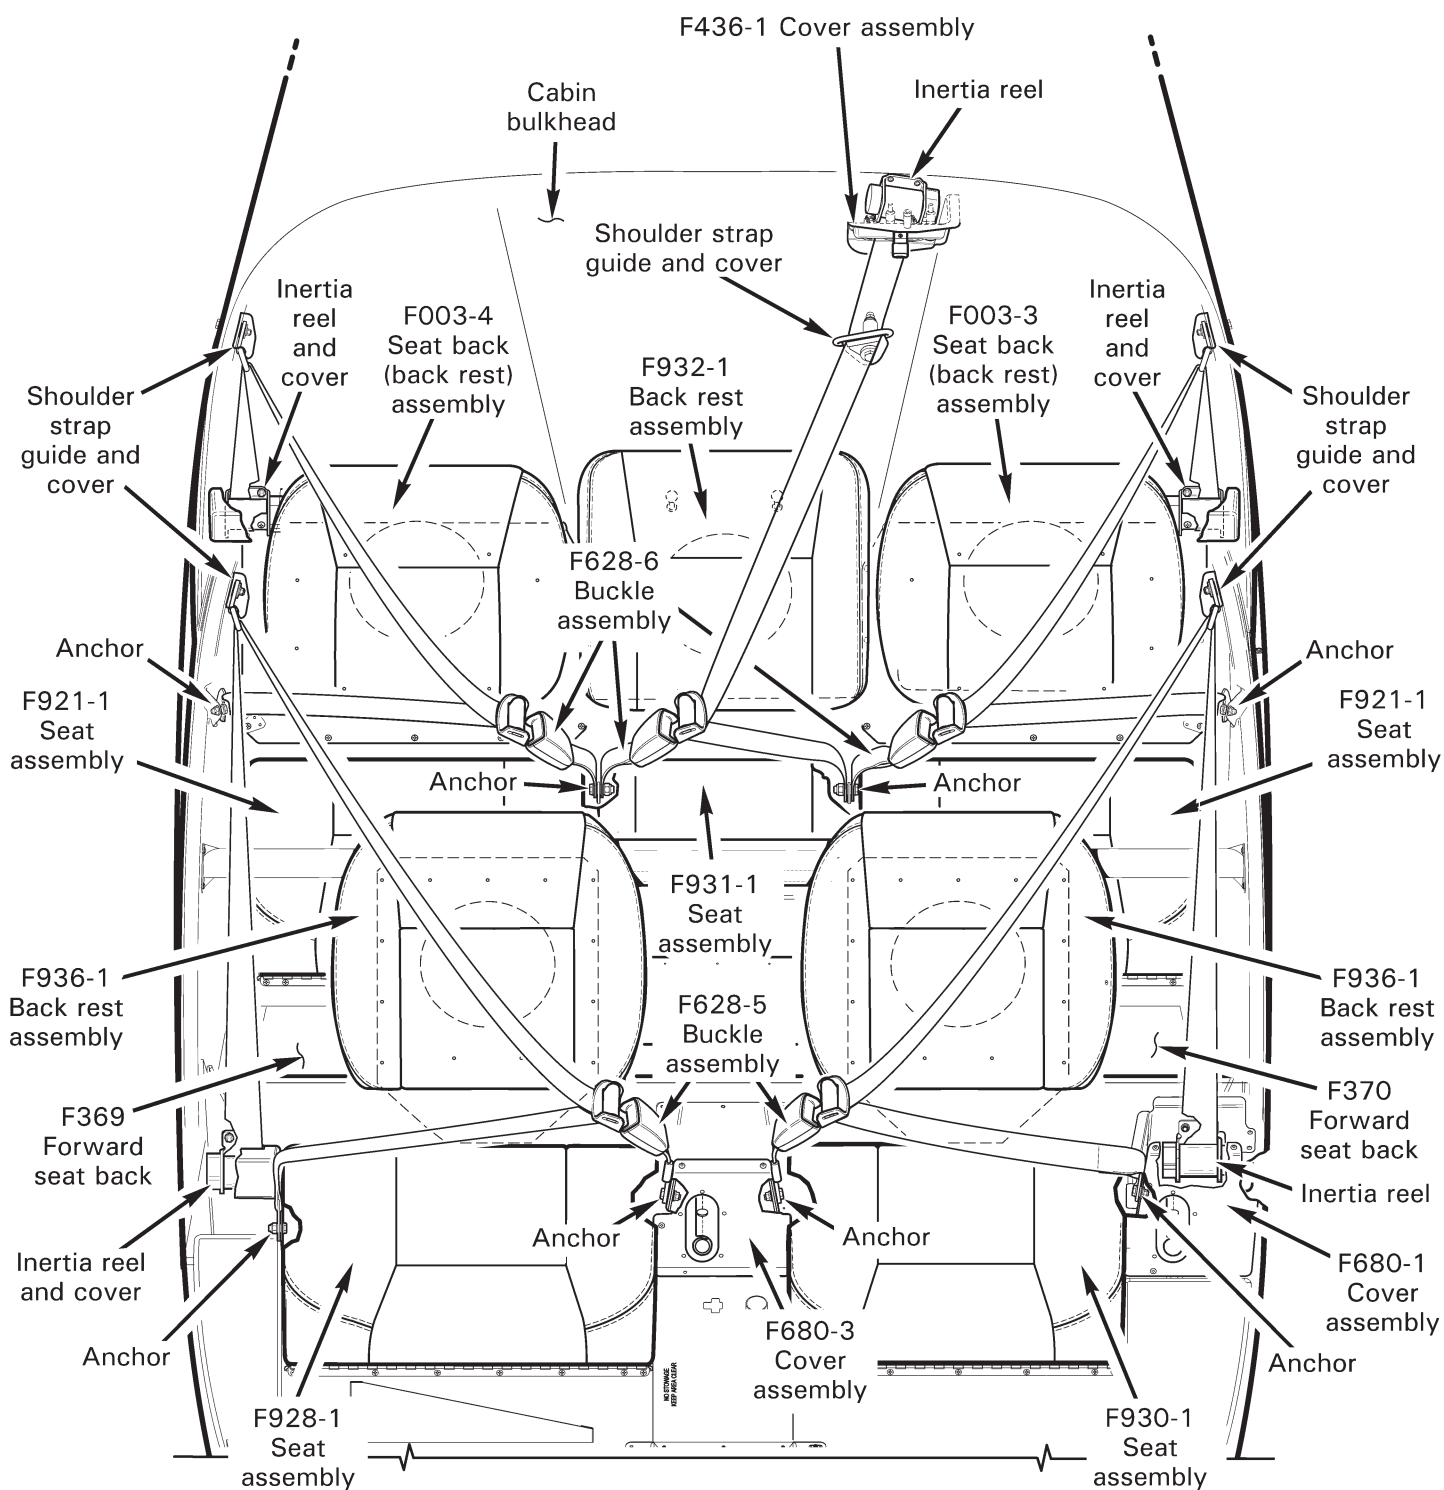

FIGURE 25-1 SEAT HARNESSES, SEAT ASSEMBLIES, AND BACK RESTS
1. Refer to Figure 25-1. Remove F680-1 and F680-3 collective cover assemblies; hinge seat assemblies forward.
2. Refer to Figure 25-1. Remove F680-1 and F680-3 collective cover assemblies; hinge seat assemblies forward.
1. Refer to Figure 25-1. Remove F931-1 seat assembly; hinge left and right seat assemblies forward.
2. Refer to Figure 25-1. Remove F931-1 seat assembly; hinge left and right seat assemblies forward.
1. Refer to Figure 25-1. Install hardware securing inertia reels to F369 and F370 forward seat backs. Install right side reel cover.
4. Refer to Figure 25-1. Install F680-1 and F680-3 collective cover assemblies; hinge seat assemblies forward.
1. Refer to Figure 25-1. Install hardware securing inertia reels to cabin bulkhead. Install reel covers.
1. Refer to Figure 25-1. Install hardware securing inertia reel to cabin bulkhead. Install F436-1 (headset jack) cover assembly. Verify security.
2. Refer to Figure 25-1. Remove hardware securing seat assembly hinge to seat box and remove seat assembly.
2. Refer to Figure 25-1. Position seat assembly on seat box and install hardware securing hinge to box. Verify security.
Refer to Figure 25-1. Attach or detach center seat assembly to or from the seat box via hook and loop tape (Velcro).
2. Refer to Figure 25-1. Remove hardware securing back rest assembly to cabin bulkhead.
2. Refer to Figure 25-1. Install hardware securing back rest assembly to cabin bulkhead. Verify security.
Refer to Figure 25-1. Detach back rest assembly hook and loop tape (Velcro) at bottom; slide back rest assembly up and out of keyhole slots.
Refer to Figure 25-1. Install back rest assembly in keyhole slots and slide down. Press firmly on back rest assembly hook and loop tape (Velcro) at bottom. Verify security.
2. Refer to Figure 25-1. Drill out rivets securing back rest cushion to seat back panel and deburr holes. Remove cushion.